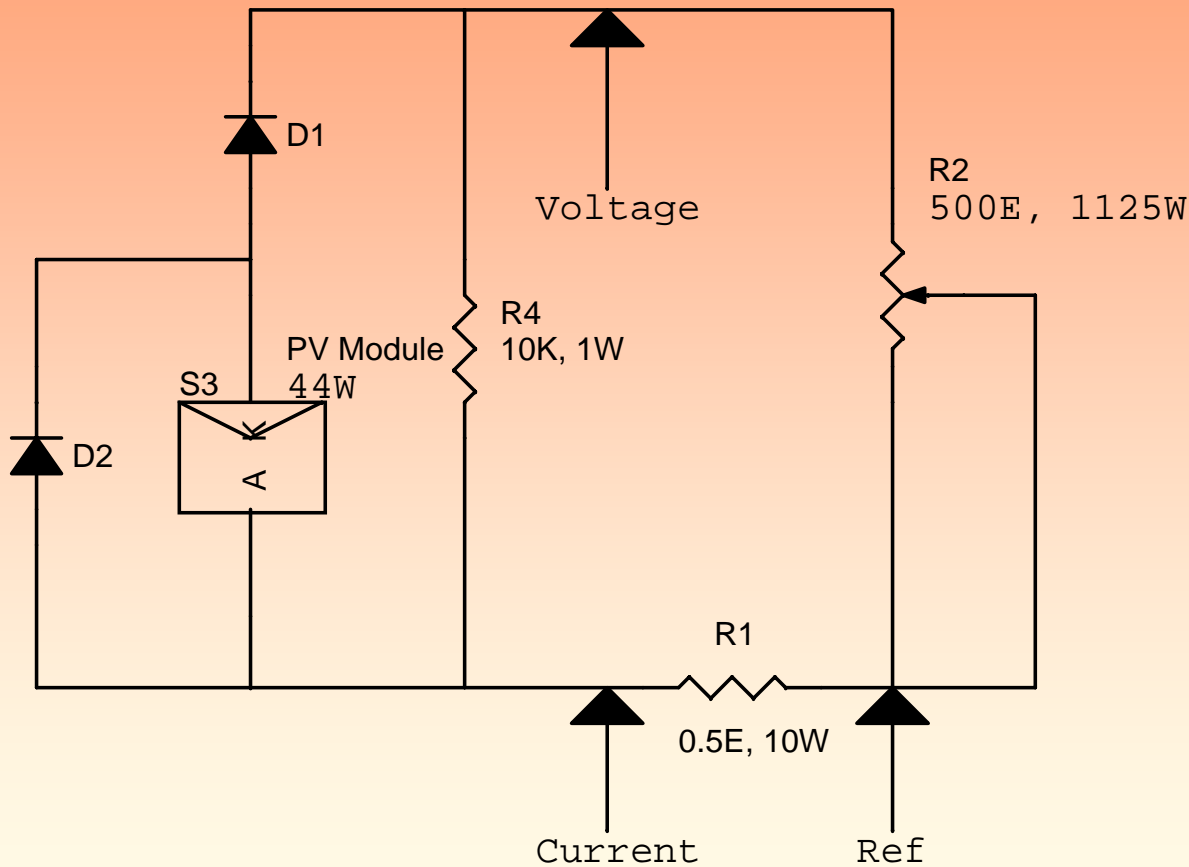

Fig 1: Circuit configuration for measuring the discrete points on PV characteristics.
- Noting down each operating point on the characteristics by varying the load resistance. The setup is as shown in Fig 1.